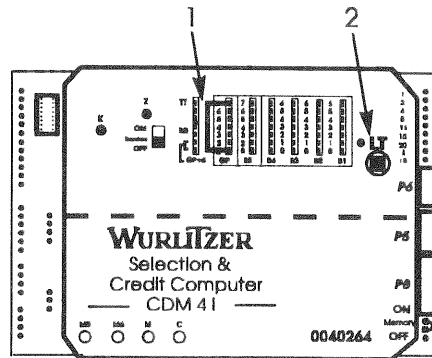

Fig. 5
2. Set a jumper from 0 to F (free play) in the row GP (Fig. 5, Pos. 1). Jumpers are in the attachment bag of the service manual. If a jumper is already set in this row memorise its position.
3. Press button LT on the SCC unit.(Fig. 5, Pos. 2).